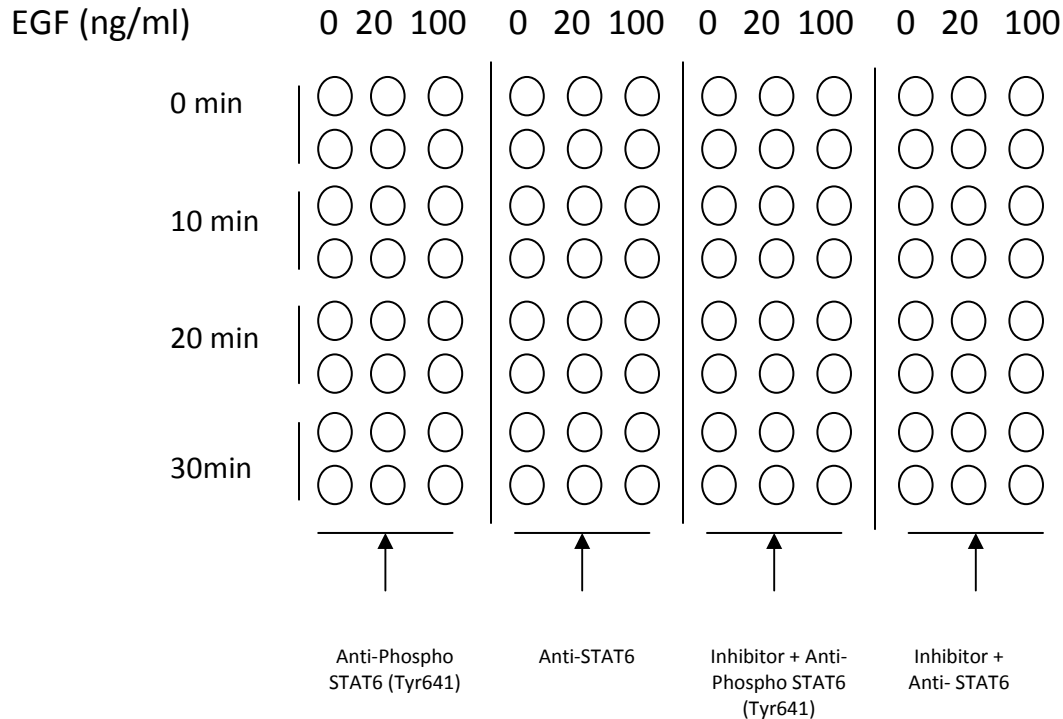

Fig. 2. Example of how to seed cells for RayBio® cell-based assay
1. Design your experiment. For example, see Figure 2 below.